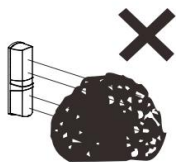

Fig 4
- (2) Do not install the device where trees, leaves or other objects which may sway in the wind and block the beam, as shown in Figure 4;